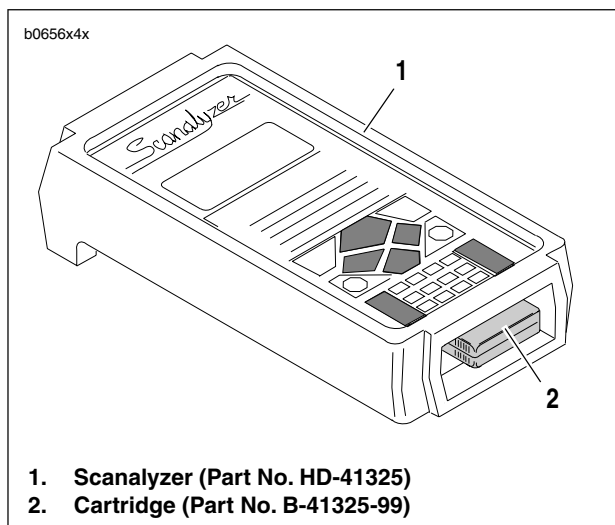
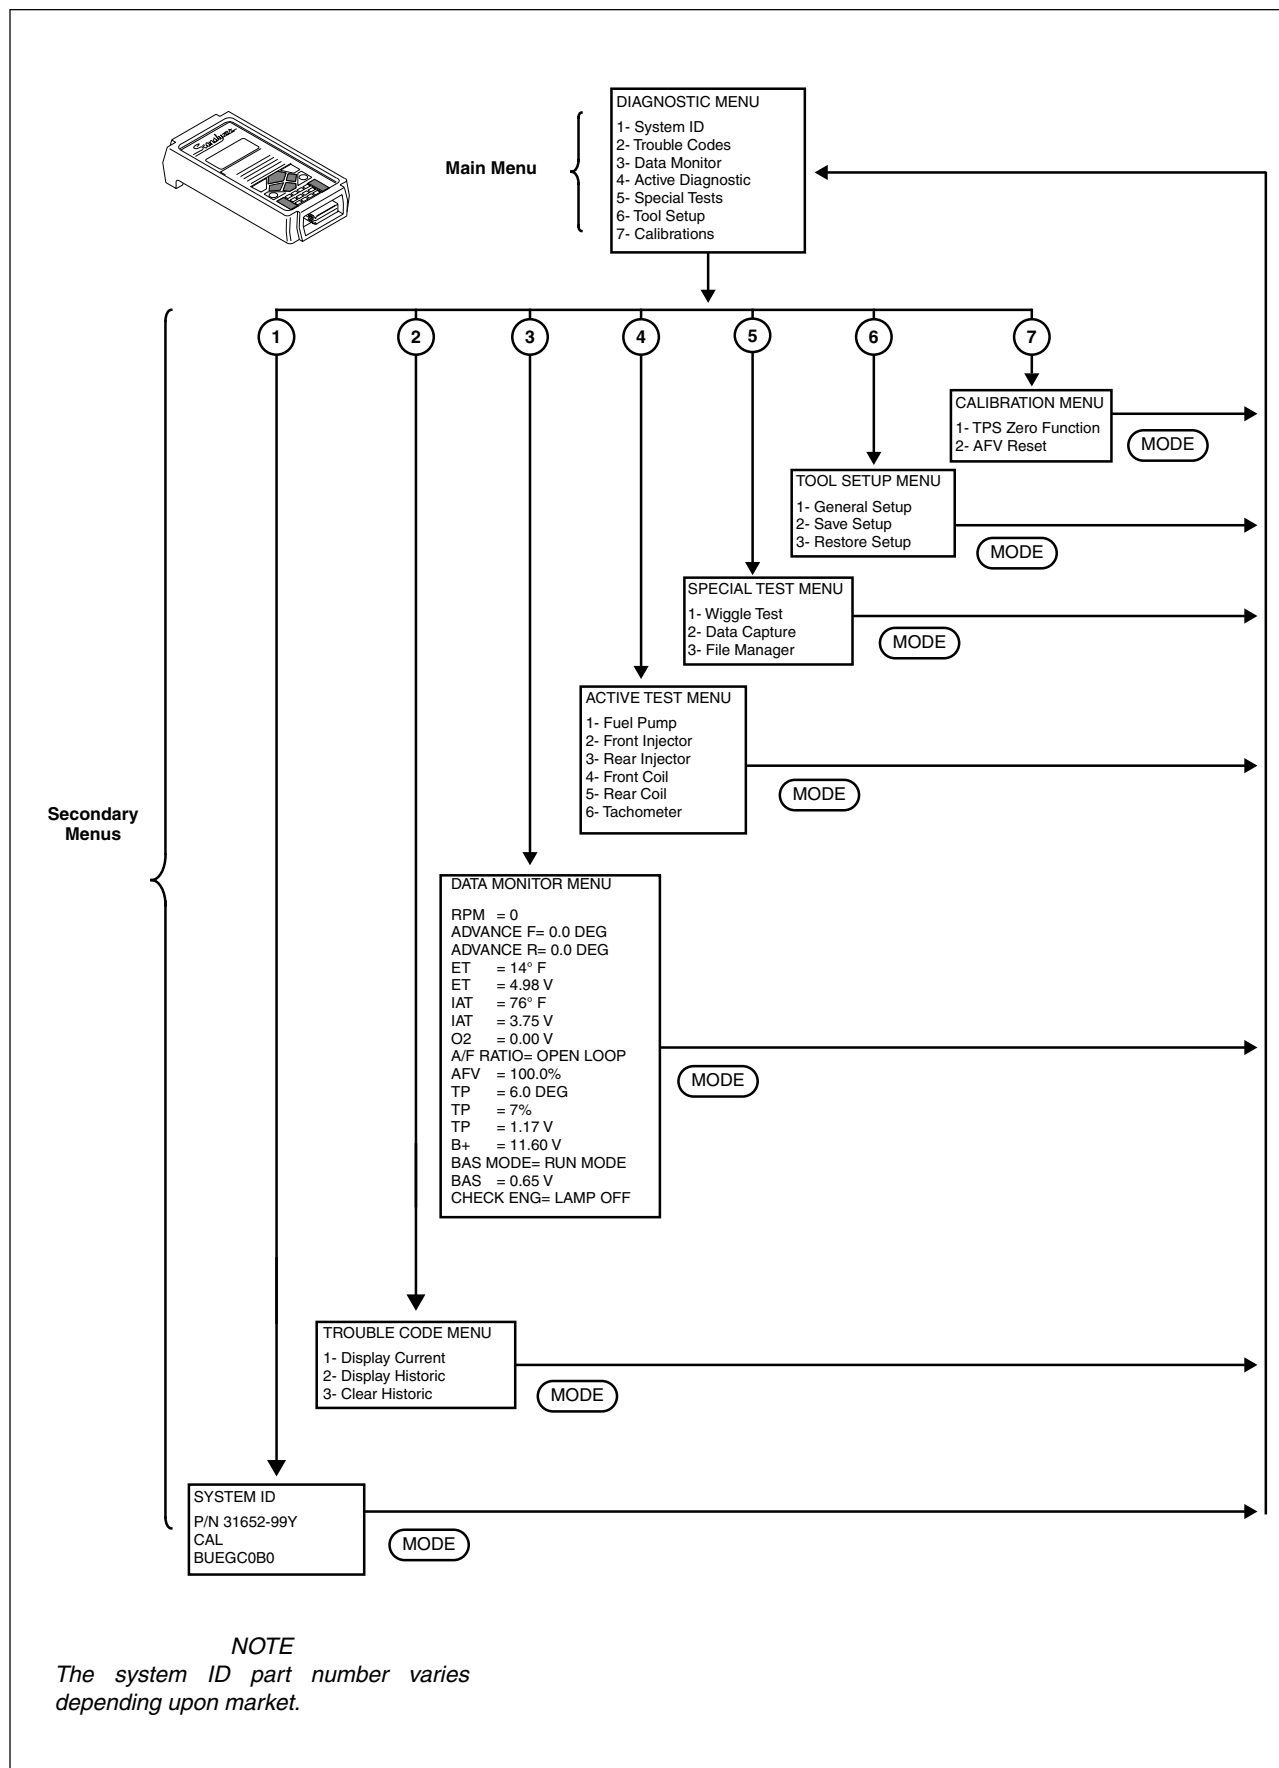

Figure 4-7. Scanalyzer and Cartridge
Figure 4-8. Scanalyzer Menus
See Figure 4-7. Through a special programmable application cartridge, the Scanalyzer offers data displays and menu selections that allow for quick and easy retrieval of data. The device enables the user to perform a variety of diagnostic tests while monitoring inputs and outputs.
Sample Scanalyzer menu selections are shown in Figure 4-8.
6. See Figure 4-7. Insert the diagnostic application cartridge (2) into the Scanalyzer (1). During the next few seconds, the Scanalyzer sequences through a series of screens that reflect a power-on self test, the system copyright, and then an attempt at communications with the ECM. Once communications is established with the ECM, the diagnostic menu appears. See Figure 4-8.
See Figure 4-8. The diagnostic menu is the primary system menu (main menu) through which all other secondary menus and displays are accessed. Since the screen may not be large enough to display all line items at any given time, use the up and down arrow keys to scroll through the list.